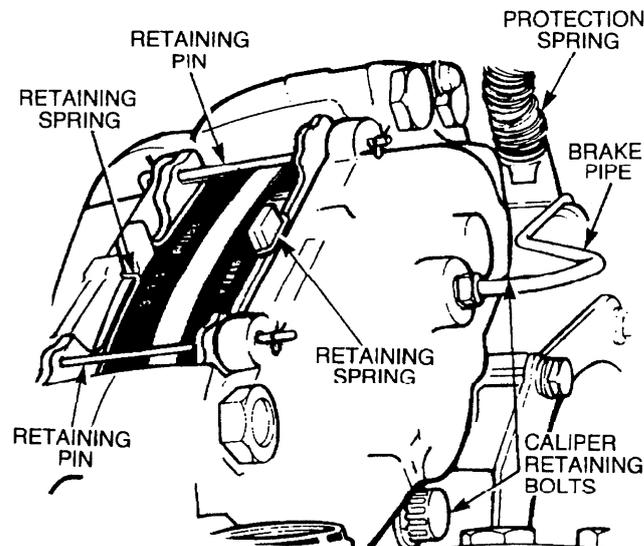

Figure 127 Brake Caliper Removal
- g. Remove the disc pad retaining pins and remove the retaining springs and pads (Figure 127).